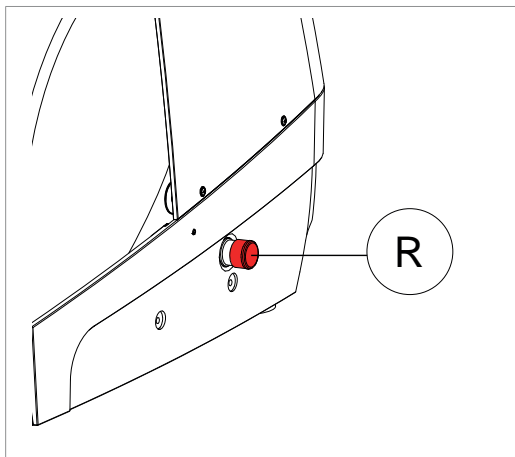

Fig. 7
Use the red emergency button (R) (Fig. 7) located on the right-hand side of the machine to stop the machine immediately in the event of serious malfunctioning or a hazard for the operator.